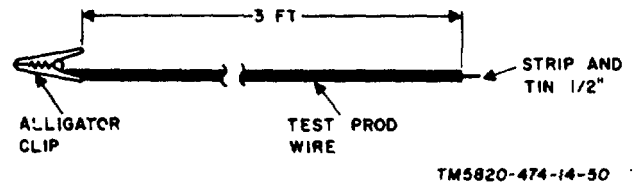

Figure 50. Test cable No. 5, construction details.
e. Test Cable No. 5 (fig. 50). Test cable No. 5 is a general-purpose test lead. It is used in several tests to connect test points to equipment input terminals. Four cables are required.